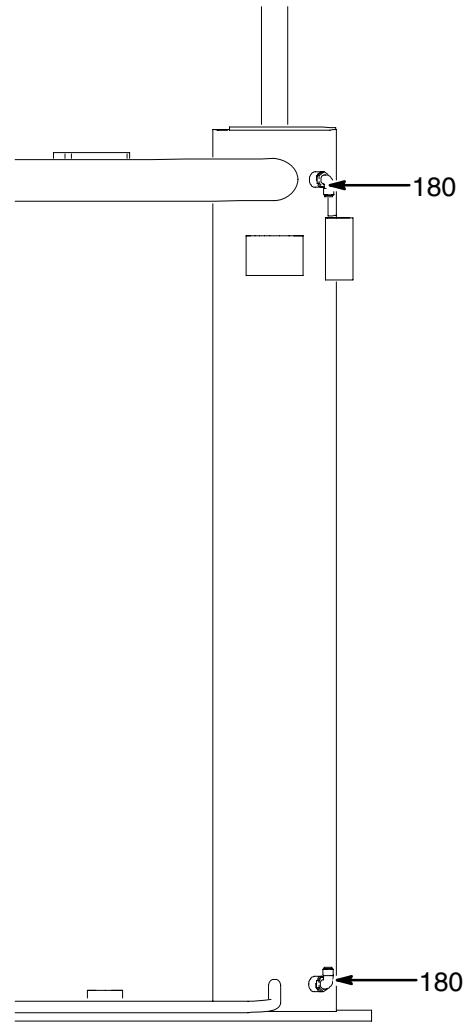

Fig. 25
4. Have a container ready to catch the leakage, then loosen the hydraulic lines from the hydraulic elbow (180) in Fig. 25).
6. Connect a regulated air supply to the lower elbow (180).
- a. You have securely reconnected the hydraulic lines to the elbows (180 in Fig. 25).
1. Make sure you have securely reconnected the hydraulic lines to the manifold (160 in Fig. 25).
2. Remove the breather (240) from the hydraulic power supply.